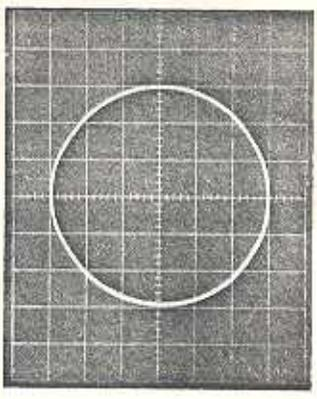

Fig. 26 Sine waves with freq. ratio of V:H = 1:1 ≈ 90°
2. Set the two generators to approximately the same frequency, then adjust one of the generators carefully and slowly until a single trace is locked in. With care the two signals can be locked in at a phase angle of 90° as shown in Fig. 26.